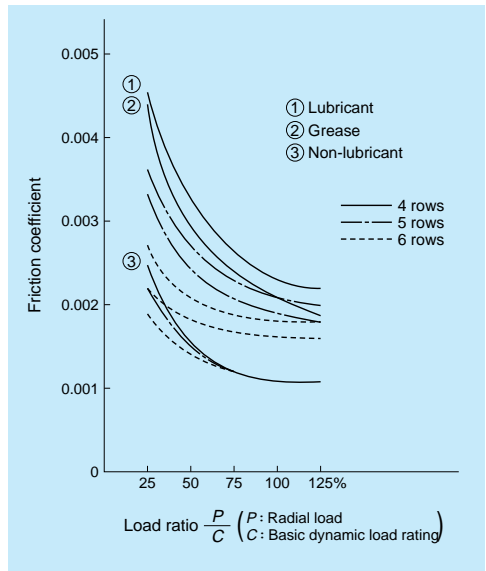

Fig. III-1•4 Dynamic friction coefficient of linear rolling bushing
- f_L*: Life factor (Refer to Fig. III-1*5)
This formula is used provided that the shaft rigidity is HRC58 or higher. Rated life is shorter if the shaft is softer. In this case, find the hardness factor *f_H* from Fig. III-1*6, and multiply the value.
Permissible load is larger when it is applied to the middle of the ball circuit rows than when it is applied directly above the ball row (Fig. III-1•7).
Load ratings in the dimension table are in case "A" when it is applied directly above the ball circuit row. If used as in case "B," the load rating becomes larger (Refer to Fig. III-1•7).